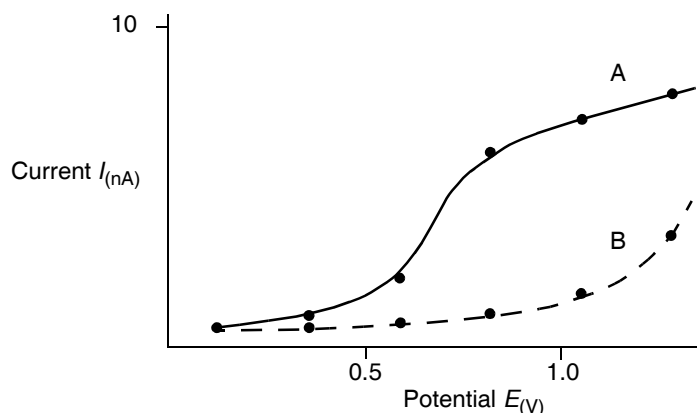

Figure 1-3 Hydrodynamic Voltammogram of Norepinephrine
Figure 1-3 shows the hydrodynamic voltammogram of norepinephrine at a glassy carbon working electrode (A) and the current of the baseline (B).